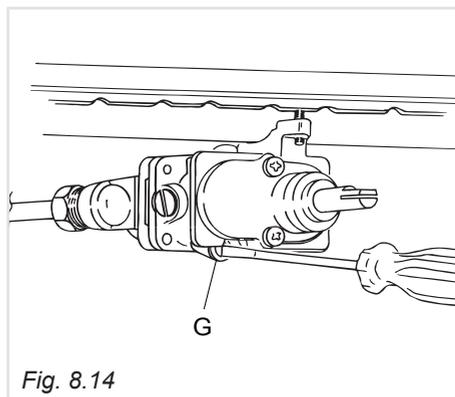

Fig. 8.14
- remove the knob and unscrew the bypass screw "G" (fig. 8.14) about three times by passing a small flat screwdriver (\varnothing 3 mm blade, 100 mm length) through the panel opening;
- after having removed the knob again and being very careful not to turn the tap rod, slowly screw the by-pass screws "G" (fig. 8.14) until you obtain a flame of 3-4 mm in height.